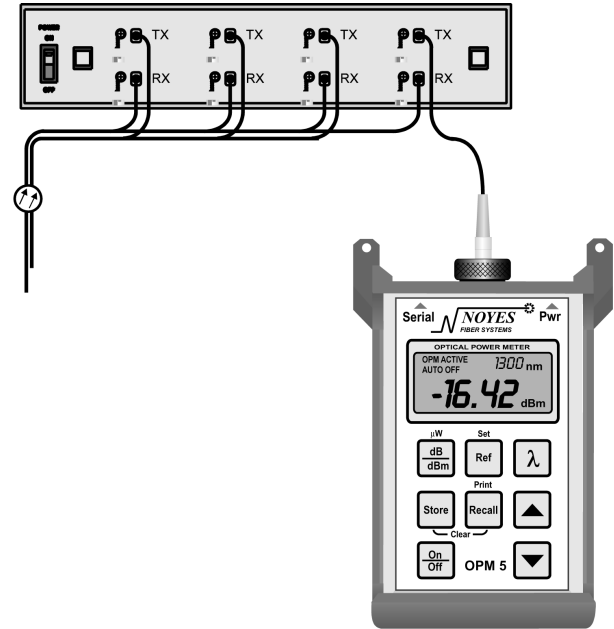

Figure 5 - Verifying Output Power
4. Set the OPM 5-2C to **dBm** mode. (The example in Figure 5 shows a power reading of -16.42 dBm).